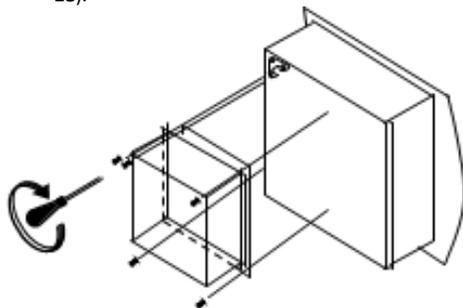

Fig 17
6. Fix the support to the motor using the 2 screws previously unscrewed, then use 4 self-drilling screws to attach the rest to the motor (Fig 17 & 18).